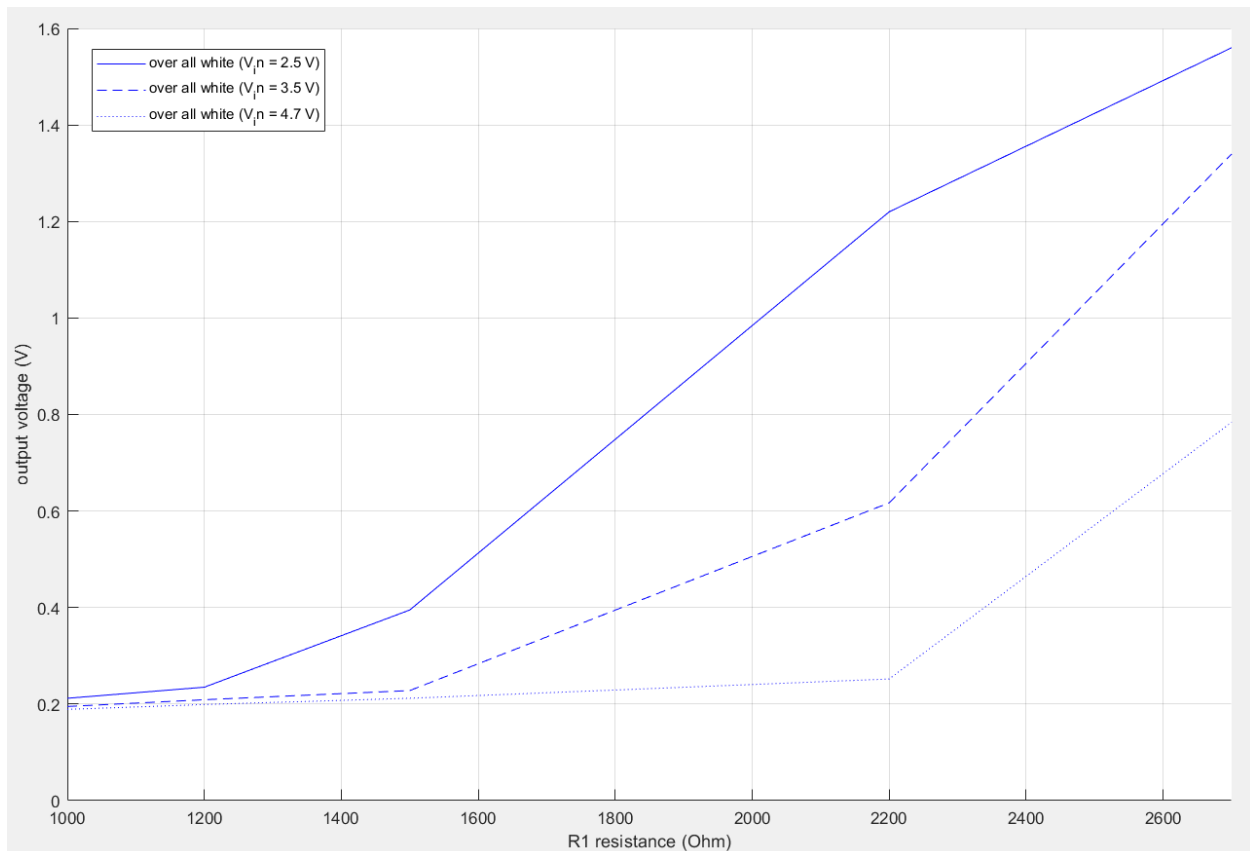
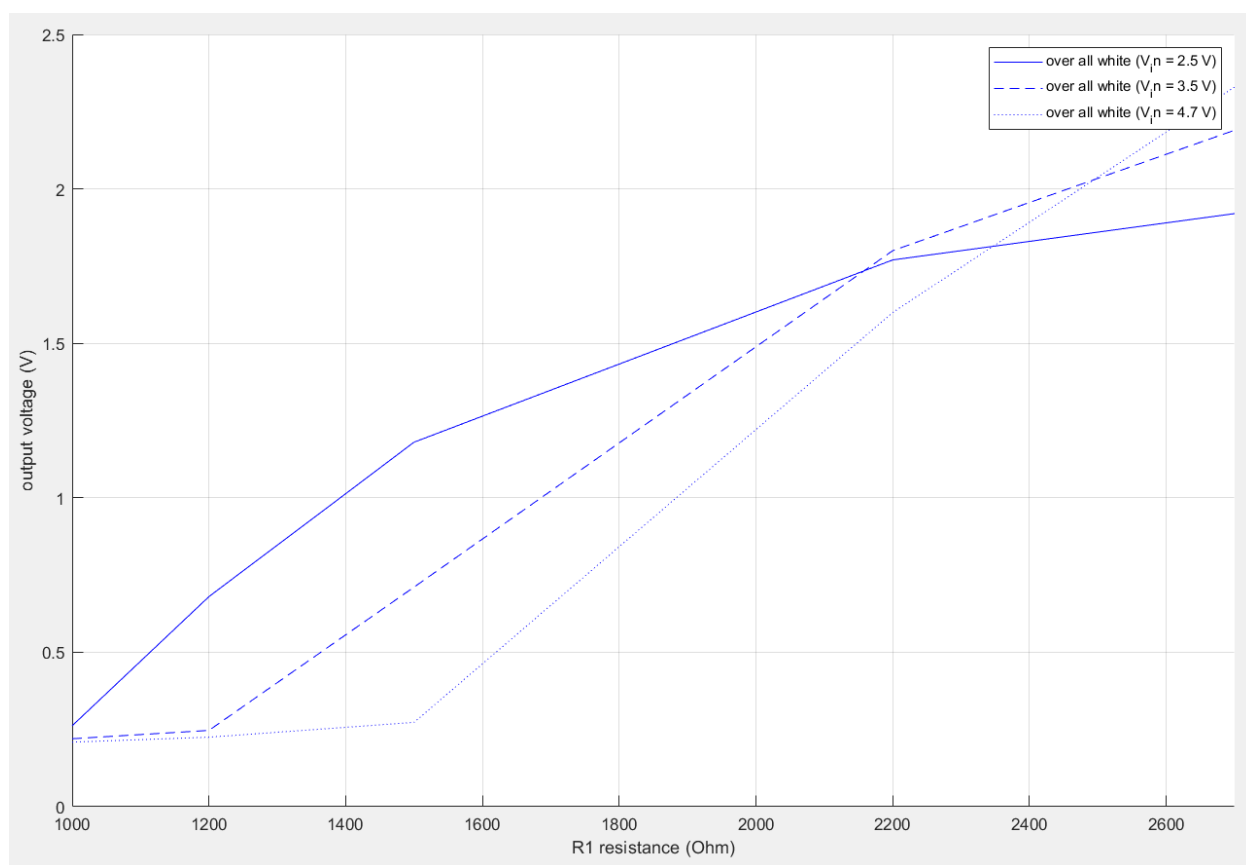

Figure 16 Output voltage dependence on value of R1. R2 = 220 kOhm, height = 2 mm.
Figure 17 Output voltage dependence on value of R1. R2 = 220 kOhm, height = 4 mm.
- **CON** if value of R1 is too large sensor unit might get too dim and reading over all white will be close or the same as over all black (see Figure 16)
- **CON** sensed object must be close to the sensor. If value of R1 works for distance of 2 mm (see Figure 16) it might not work for distance of 4 mm (see Figure 17).